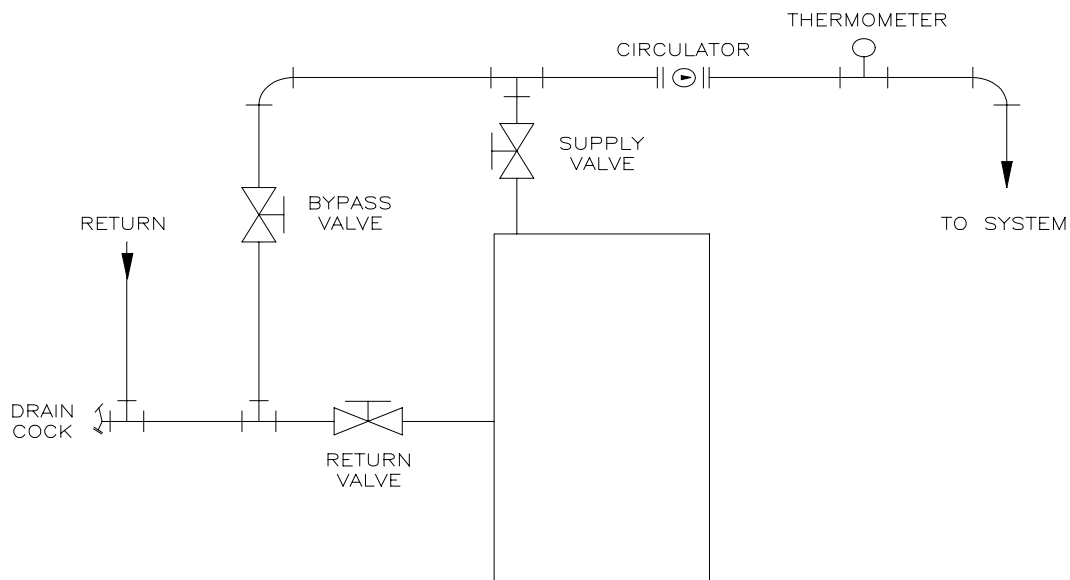

Figure 10: Recommended System Bypass Piping
- d. Use a system bypass if the boiler is to be operated in a system which has a large volume or excessive radiation where low boiler water temperatures may be encountered (i.e. converted gravity circulation system, etc.) The bypass should be the same size as the supply and return lines with valves located in the bypass and return line as illustrated in Figure 10 in order to regulate water flow for maintenance of higher boiler water temperature. Set the bypass and return valves to a half throttle position to start. Operate boiler until the system water temperature reaches its normal operating range. Adjust the valves to maintain 180°F to 200°F boiler water temperature and greater the 120°F return temperature. Adjust both valves simultaneously. Closing the boiler return valve while opening the bypass valve will raise the boiler return temperature. Opening the boiler return valve while closing the by-pass valve will lower the boiler return temperature.